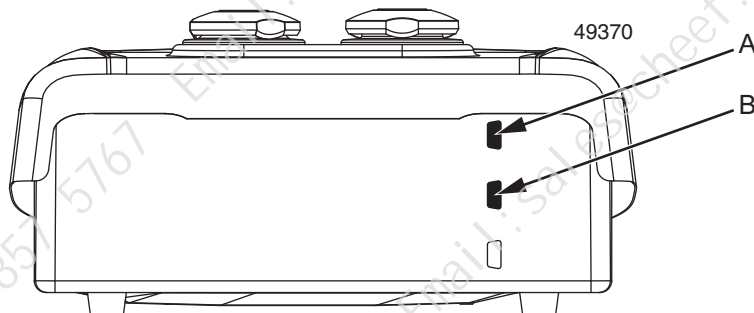

Figure 9. Secondary trigger/shaft encoder input
Refer to Figure 9 and correct the direction signal from the traversing arm to the SECONDARY TRIGGER/SHAFT ENCODER input (B) on the rear panel of the printer.